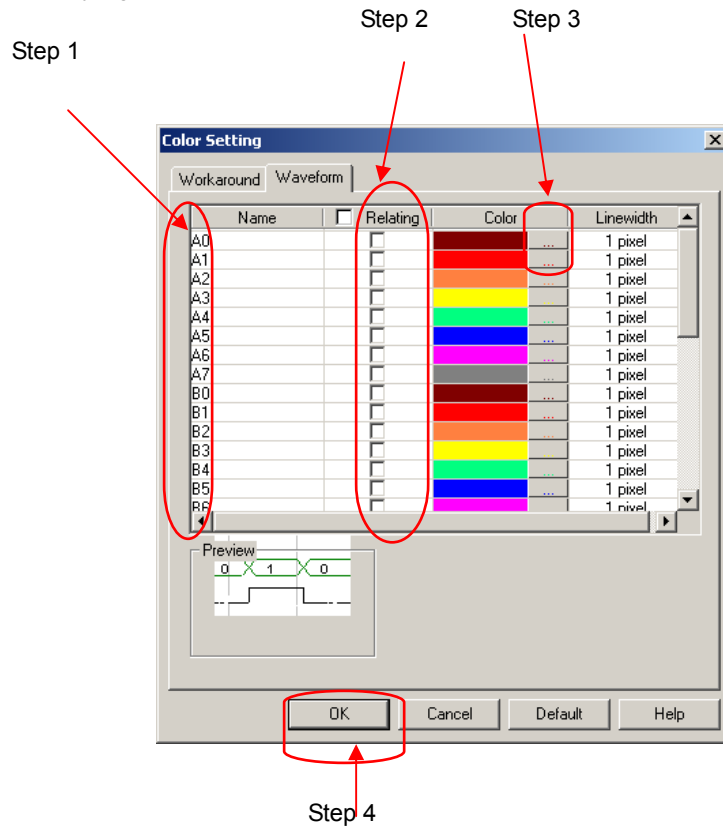

Fig 3-159: Stepwise Illustration of Changing **Waveform** Colors
Foreground color refers to the color of the output signal lines in the Waveform Display Area. *Fig3-159* presents how to change colors of a signal or some signals. Repeat the following procedures if users need to change colors of many signals.
Step 3: Choose a color by following the method shown in Fig 3-159.